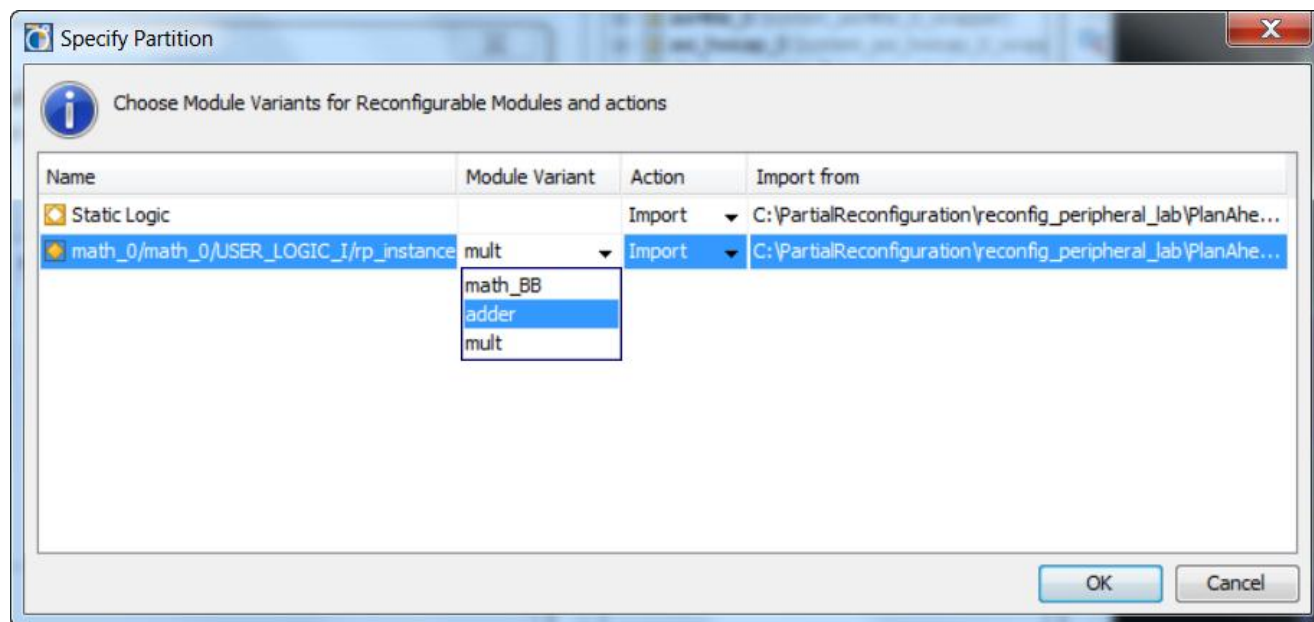

Figure 26: Selecting Adder Module Variant
7. For the rp_instance row, click the Module Variant column drop-down arrow, and select **adder** as the variant to be implemented, as shown in Figure 26.